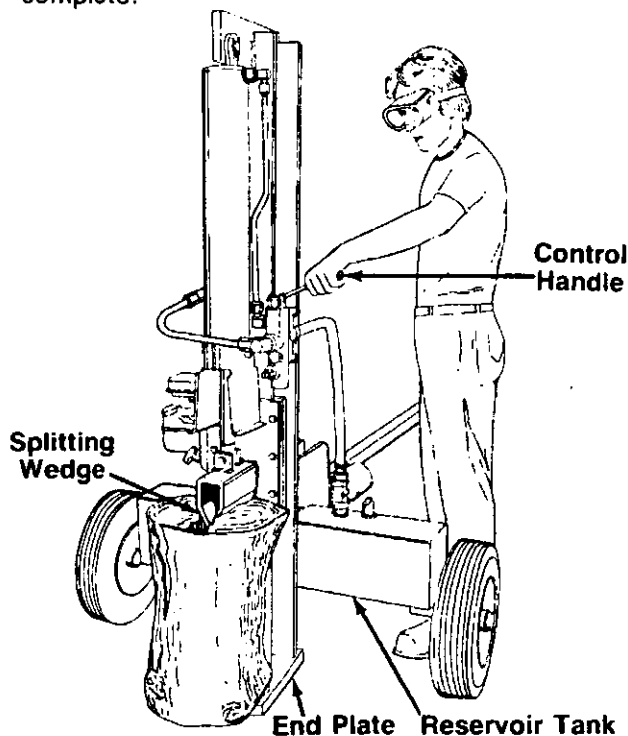

FIGURE 15.—Vertical Operation
Use the log splitter only on a level, hard surface. Never stand next to the splitting wedge when operating the log splitter. Always stand behind the reservoir tank. See figures 15 and 16. Never attempt to cut a log in half sideways. Always split the log lengthwise. Maximum length of log to be split is 24".
4. **Step behind the reservoir tank** (see figures 15 or 16) and push the control handle in forward position until the log is split.